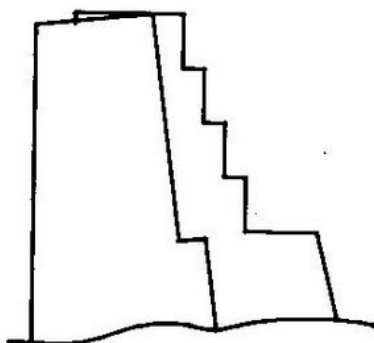

Figure 5.5.3
6. If the mounting force indicated is less than rated force, tighten the bolts alternately 1/4 turn at a time until the points coincide. (See Figure 5.5.3.)